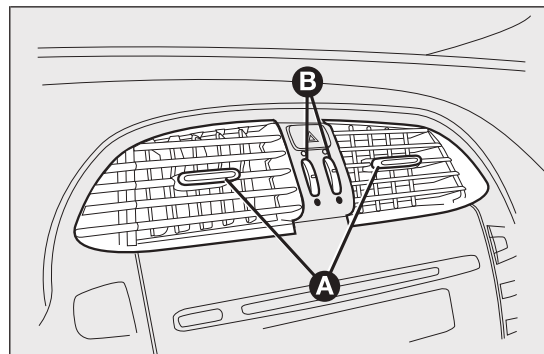

fig. 28
**A** Lateral and vertical air flow adjustment controls fig. 28.
**B** Air flow adjustment controls fig. 28: